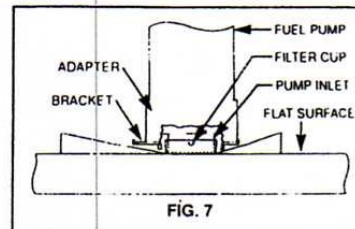

FIG. 7
I) Install the new filter on the fuel pump in the same position or orientation as the original filter. To avoid damage to the filter, place it on a clean, flat surface and push the pump straight down into the filter cup until it is fully seated on the pump. (See fig. 7) (It is important that the filter alignment is done correctly the first time, because if you have to remove it, the filter will either become contaminated or be destroyed by removing it. This will require you to replace it with another one.)